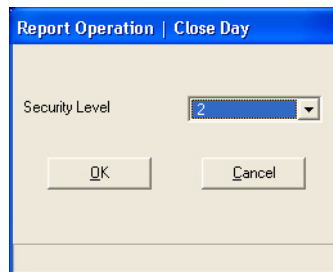

Figure 6-5 Security Level Modification Window
2. Select the name of the operation that you want to modify then choose **Modify**. The programming window for that operation is shown in Figure 6-5 below.